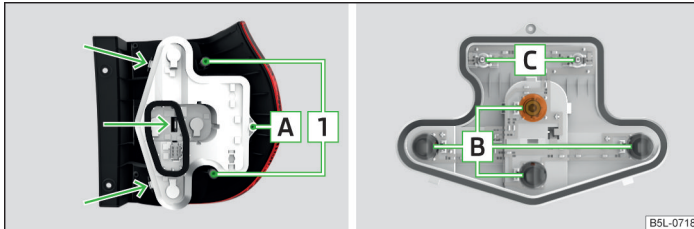
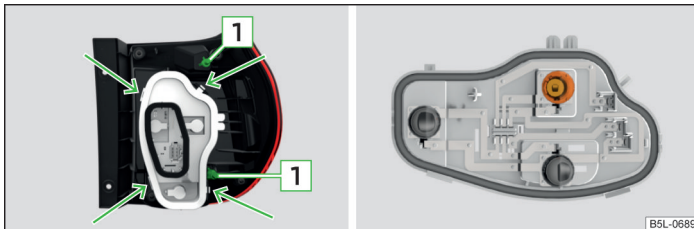

Fig. 204 Inner part of the light: Ground light
Fig. 205 Inner part of the light: Light with LED diodes
- Carefully press the light into the body so that the bolts **1** » Fig. 204 on page 243 or » Fig. 205 on page 243 on the light engage into the mounts on the body.
- With the Torx screw, unscrew the securing screw **A** » Fig. 204 .
- Unlock the bulb holder using the locking latches marked with arrows » Fig. 204 and remove the bulb holder from the light.
- Turn the respective bulb **B** » Fig. 204 until it stops **counter-clockwise** and remove it from the bulb holder.
- Pull bulb **C** » Fig. 204 out of the socket and insert a new bulb.
- Unlock the bulb holder using the locking latches marked with arrows » Fig. 205 and remove the bulb holder from the light.
- Turn the respective light bulb » Fig. 205 until it stops **counter-clockwise** and remove it from the bulb holder.